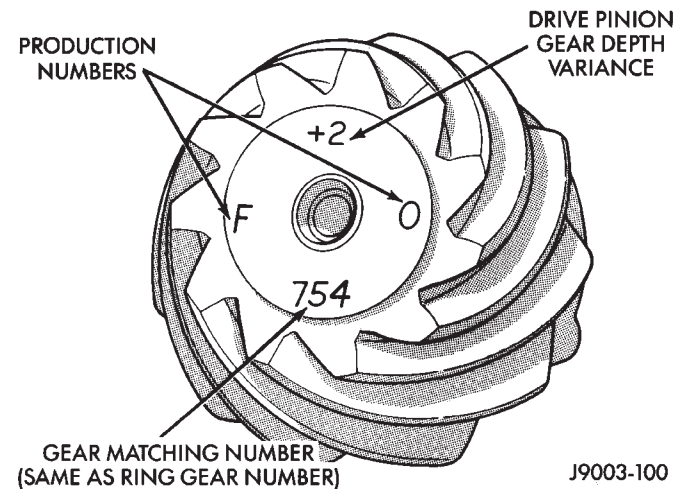

Fig. 44 Pinion Gear ID Numbers
Ring and pinion gears are supplied as matched sets only. The identifying numbers for the ring and pinion gear are etched into the face of each gear (Fig. 44). A plus (+) number, minus (-) number or zero (0) is etched into the face of the pinion gear. This number is the amount (in thousandths of an inch) the depth varies from the standard depth setting of a pinion etched with a (0). The standard setting from the center line of the ring gear to the back face of the pinion is 92.08 mm (3.625 in.). The standard depth provides the best gear tooth contact pattern. Refer to Backlash and Contact Pattern Analysis paragraph in this section for additional information.
(9) Select a shim equal to the dial indicator reading plus the drive pinion gear depth variance number etched in the face of the pinion gear (Fig. 44). For example, if the depth variance is -2, add +0.002 in. to the dial indicator reading.